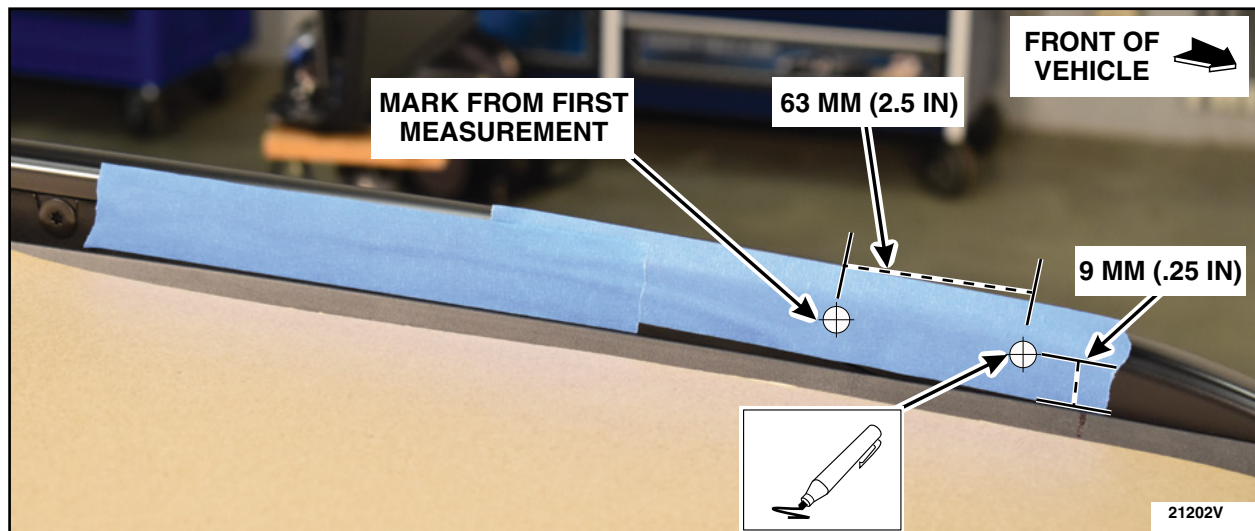

FIGURE 19
8. From the first mark, measure 63 mm (2.5 in) towards the front of the vehicle and up 9 mm (.25 in) from the top of the roof rail base. Mark the measurement on the tape. See Figure 19.